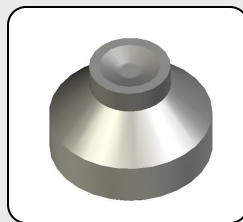

Figure 10
Pellet Anvil P/N GS10532 (Figure 10.)
3. If using a Silver Gate™ bridge and clamp anvil assembly (**15**) on the Silver Gate™ optical unit, then choose an appropriate compression head anvil (**13**) (P/N GS10567 or P/N GS10532 - see Figures 10 and 11) to fit to the clamp head pressure pin (**14**).